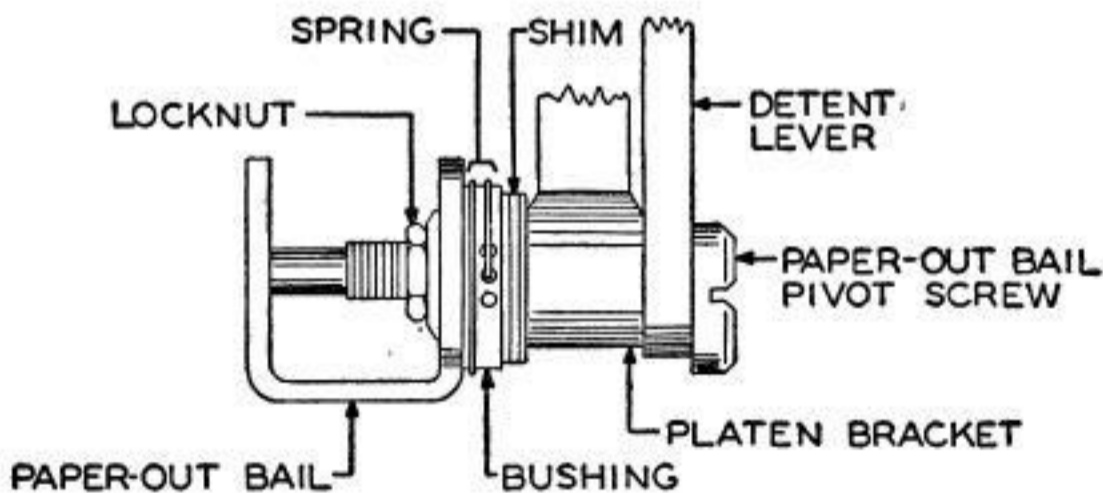

Fig. 7.
3.03 **Paper-Out Bail.** The vertical arm of the paper-out bail should drop freely into the platen groove. To adjust, add or remove shims. **Fig. 6 and Fig. 7**
3.04 **Paper-Out-Bail Spring.** The spring should be anchored in the center of the three holes in the bushing. **Fig. 7**